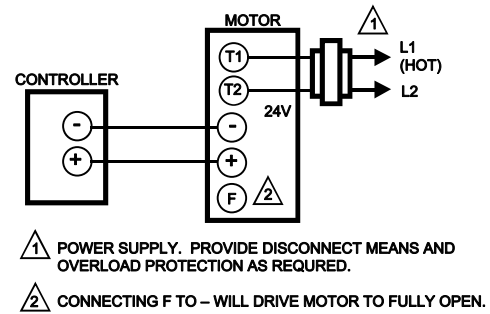

Fig. 5. Typical system wiring.
5. Refer to Fig. 5 through 8 for wiring.